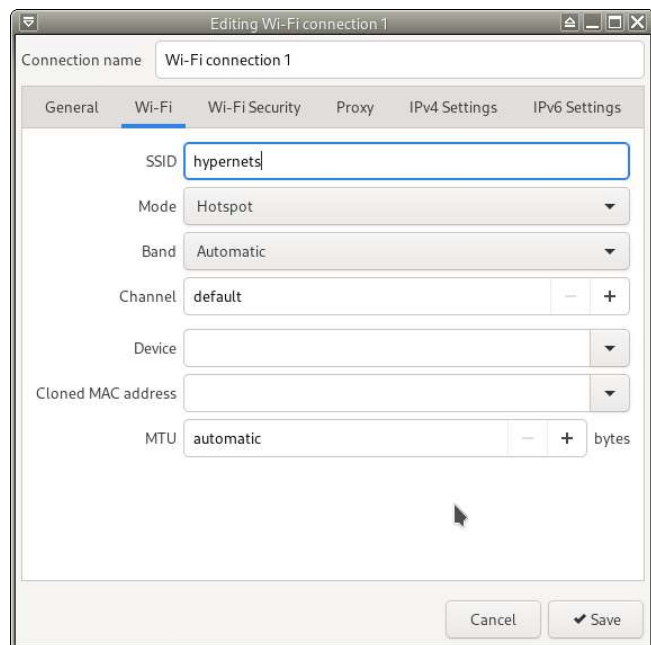

Figure 30: Edit Connections
- First, right click on the the connection logo in the bottom right corner of the screen and click *Edit Connections...* (see figure 30).